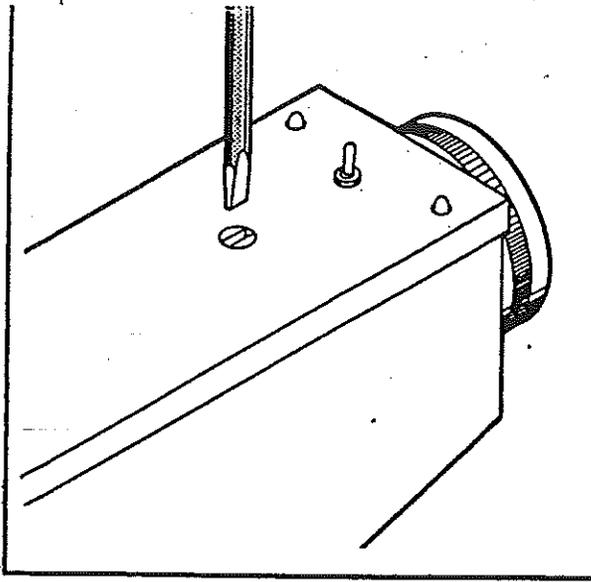
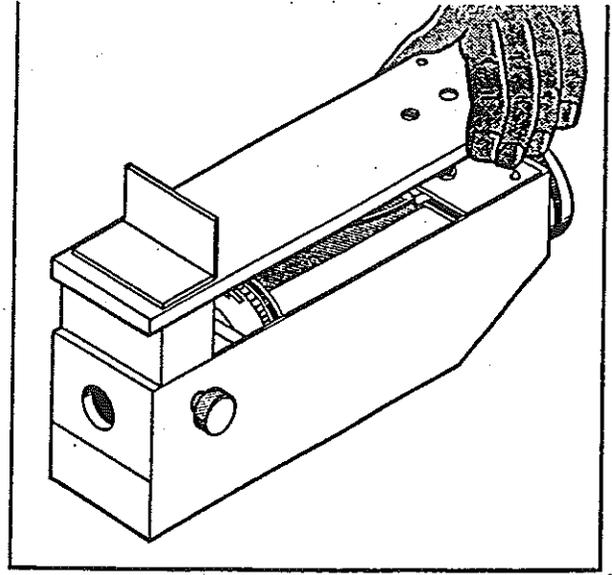

Fig. 8
Fig. 9
- (a) Unlock the camera lid by anti-clockwise rotation of the large recessed screw (found on the top of the lid towards the rear) (Fig. 8). Lift off the lid by careful vertical movement (Fig. 9).